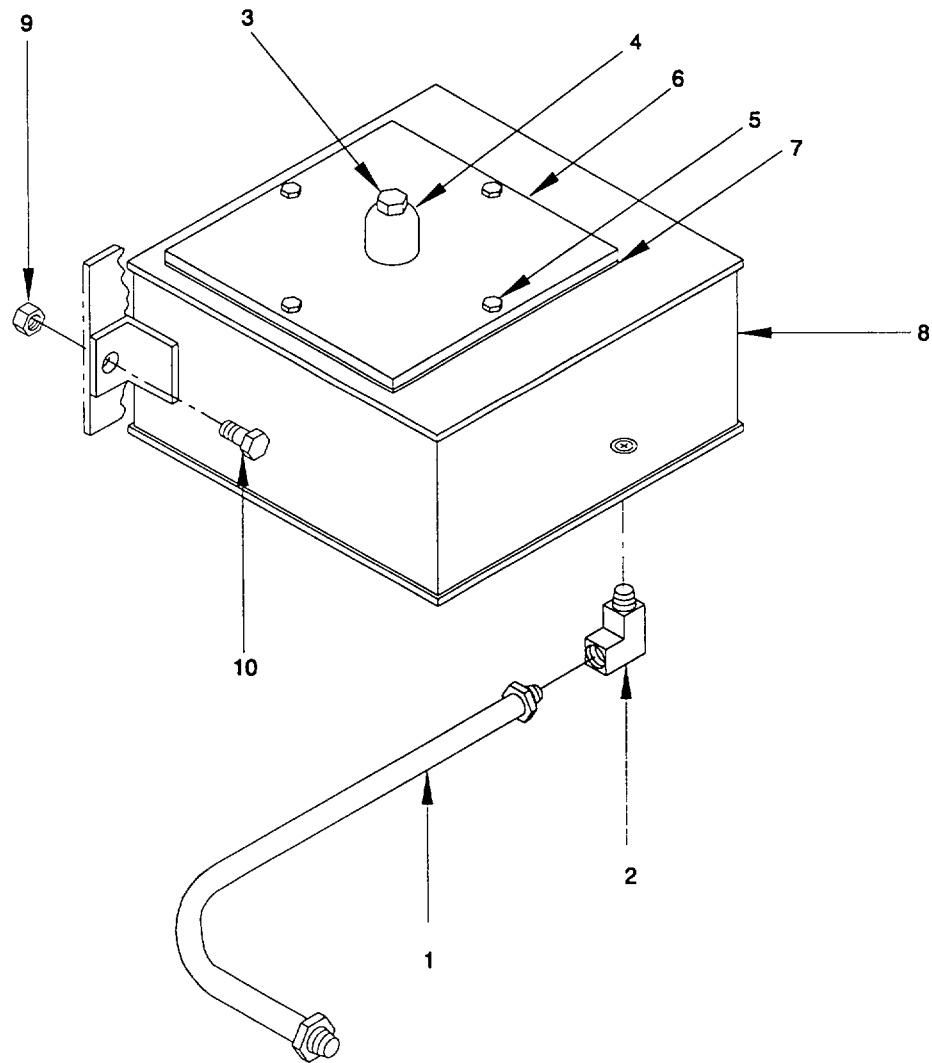

Figure 2-16. Pump-Jet Expansion Tank Remove/install.
a. *Remove.* (figure 2-16)
- (1) Disconnect hydraulic hose (1) and elbow (2) from underside of tank (7).
- (2) Remove bolt (3) and collect air vent (4).
- (3) Remove four hex head capscrews (5), tank cover (6) and gasket (7).
- (4) Support tank (8), remove two hex nuts (9) and capscrews (10).
b. *Install.* (figure 2-16)
- (1) Clean tank with lint-free cloth. Remove all oil accumulations, dirt and other foreign substances.
- (2) Position tank (8) and attach with capscrews (10) and hex nuts (9).
- (3) Position gasket (7), cover (6) and secure with four hex head capscrews (5).
- (4) Clean air vent and install vent (4). Secure with bolt (3).
- (5) Install elbow (2) and hose (1) to underside of tank (7).